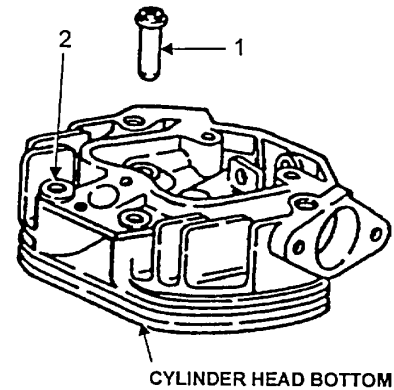
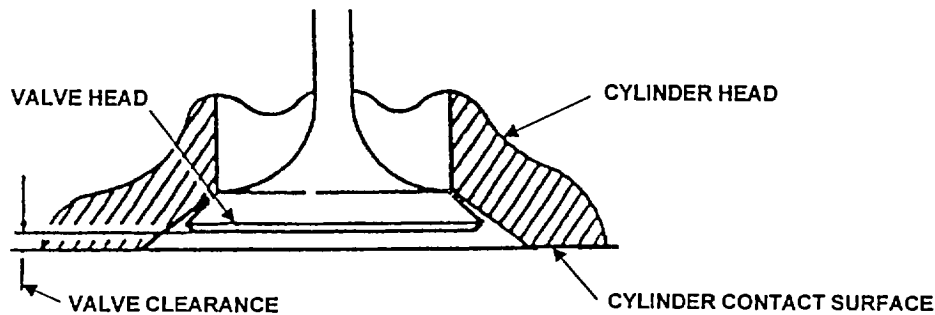

FIGURE 5-34. VALVE GUIDE
FIGURE 5-35. VALVE CONTACT POINTS
a. If the inside diameter of the cylinder head guide (Figure 5-34, Item 1) exceeds 0.2780 Inch (7.059 mm), replace the guide. Press out the valve guide.
b. From cylinder head bottom, push valve guide (1) out of the cylinder head (2). Insert new valve guide (1) into cylinder head (2). Install new valve guide by pressing in. Minimum Inserting force is 220 lb. (100 kg)
f. valve clearance is maintained (Figure 5-35).